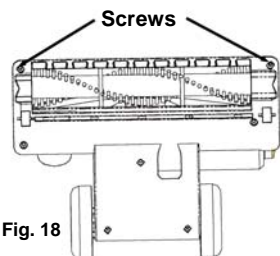

Fig. 18
- Use a Phillips #1 screwdriver and remove the two (2) front screws from the bottom of the motorized floor brush. (Fig. 18)